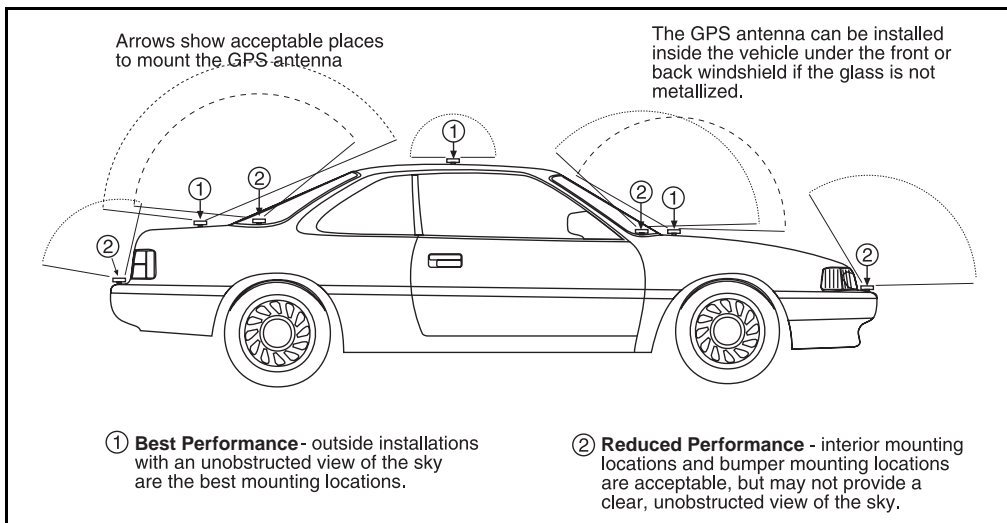

Figure 2.5 Antenna mounting locations for a car
- Mount the antenna in a horizontal position facing the sky, as shown in Figure 2.5.
Figure 2.5 shows typical antenna mounting locations for a car.